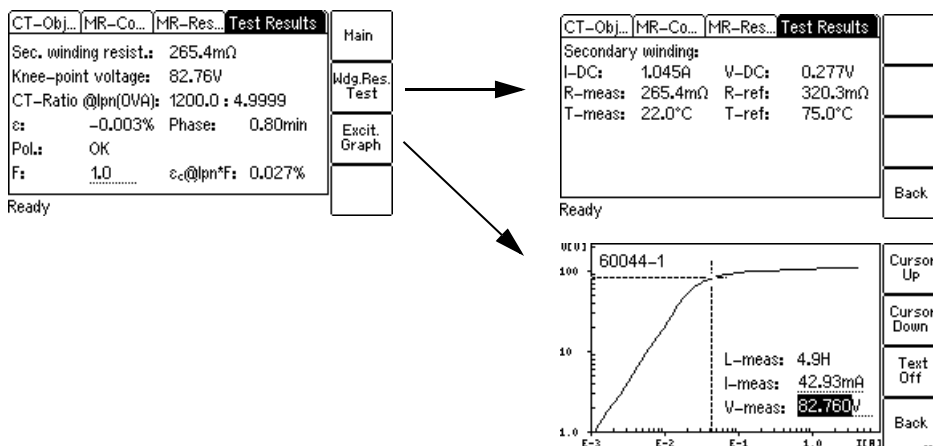

Figure 5-4: Test Results card after the test is finished
1. Display the **Test Results** card to view the test results for the tap combination selected as tap in use in the **MR-Config.** card prior to the test (refer to Figure 5-4).